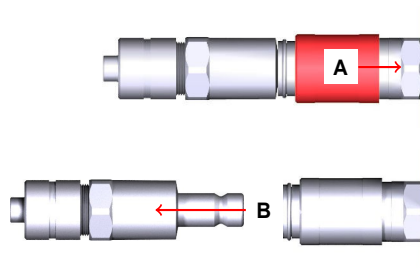

Figure 4.8.: Unplugging the self-sealing coupling
**How to disconnect the self-sealing quick connectors at the scan head (1)**
- Push the end piece (marked red in figure 4.8 on page 23) of the self-sealing quick connector in direction A, pull the coupling plug out B and immediately release the end piece again.